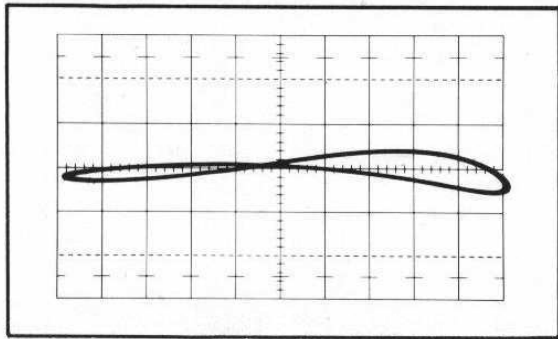

Fig. 6-16. Typical display obtained when C136 and C140 are correctly adjusted at 100 kHz. Tilt is within 3 cm.
- i. Repeat steps d, e and f above then adjust C136 for a closed loop (minimum loop opening) and C140 for minimum tilt. See Fig. 6-16.